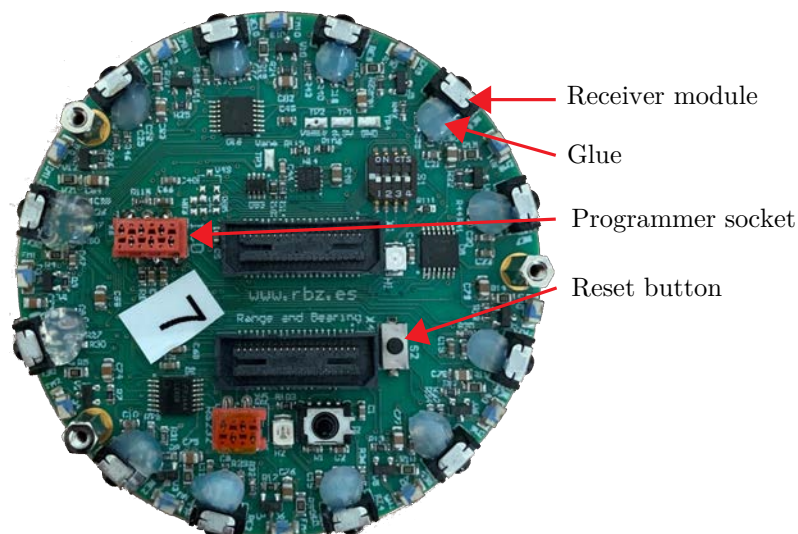

Figure 5: e-RandB sensor module.
- a) It is very easy to break the receiver modules on the e-RandB sensors (see Figure 5), therefore, handle the sensors with extreme care and use hot glue to support the receiver modules as shown in Figure 5.
- Press the reset button on the **e-RandB** sensor (see Figure 5), when prompted.
Follow the same procedure for e-puck firmware installation using MPLAB and PICKit3 programmer but set the device to Microchip **dsPIC33FJ256GP710** and connect the PICKit programmer to the connector on the eRandB board (see Figure 5).